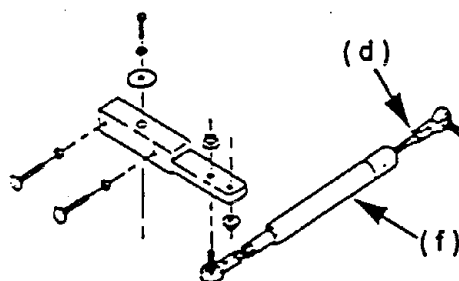

FIG. 6
- engine deck anchor mounting (See Figure 6).